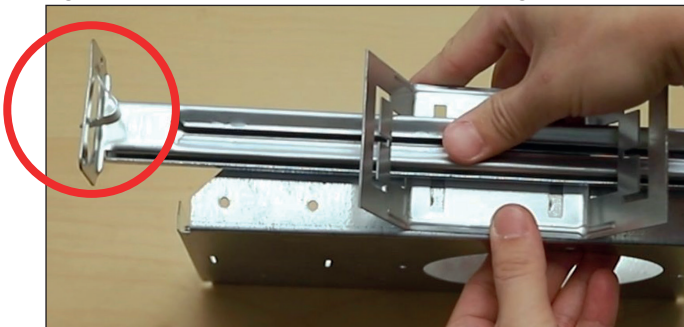

Fig. 4
- Secure hanger bars to Non-Electrical New construction housing by first ensuring the hanger bar securement tab are oriented towards the bottom of the Non-Electrical New construction housing. [Fig. 4]